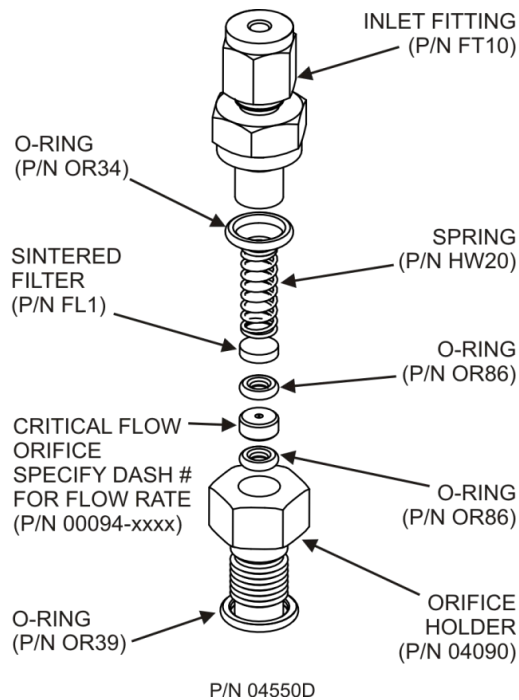

Figure 5-14. Critical Flow Orifice Assembly
- This part holds all components of the critical flow assembly as shown in Figure 5-14.
For orifices in the vacuum manifold: the assembly is similar to the one shown in Figure 5-14, except:
8. Reassemble the parts as shown in Figure 5-14.